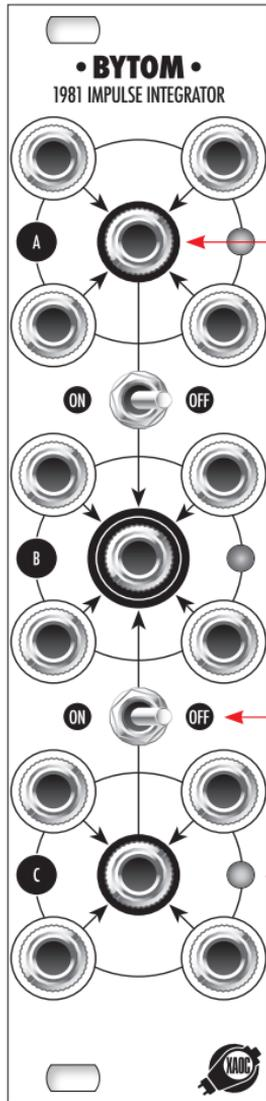

fig. 1
The front panel of *Bytom* (fig. 1) consists of three sections: **A**, **B**, and **C**. Each can process up to four signals fed to four input sockets ❶. Each section features an output ❷, marked by a black ring around the jack. You can patch up to four separate signal sources using any combination of inputs in each section. Any unused inputs are ignored. Whenever there is an active gate in any source signal, the output becomes active, and the corresponding LED indicator ❸ lights up.